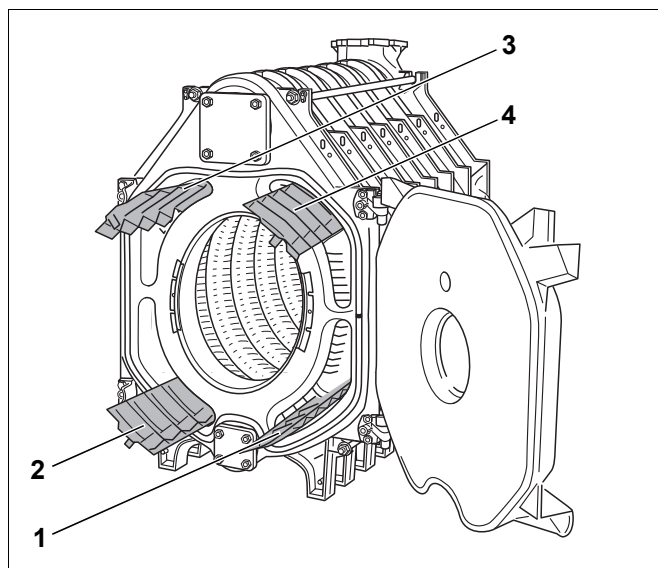

Fig. 34 Hot gas baffle plates
- Remove the hot gas baffle plates from the fitting crate and insert it into the hot gas ways according to the instructions cast into the body (→ Fig. 34 and the following table).